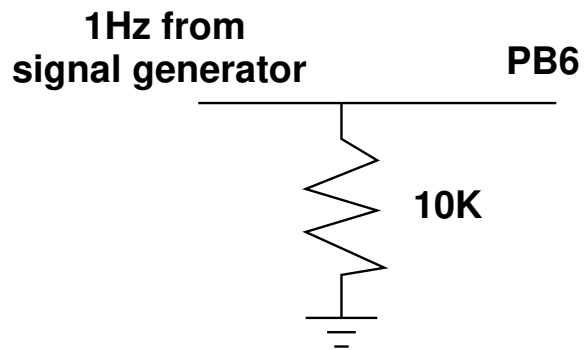

Figure 2: Current limiting resistor.
2. Hook the output of the generator to pin PB6. To protect the board you can use a 10K resistor to limit the current as shown in Figure 2. (Note, there has been some trouble with the resistor. You can try connecting the function generator directly to PB6 and your board will probably be fine).